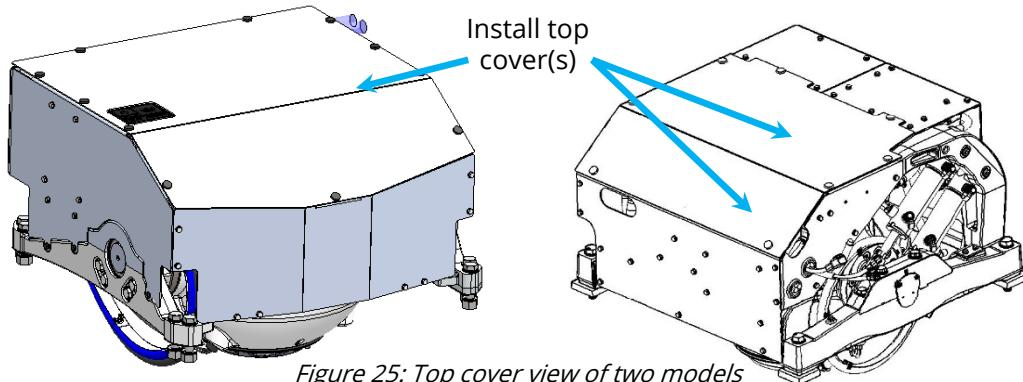

Figure 25: Top cover view of two models
1. **INSTALL** top cover(s) to Seakeeper (Fig. 25).